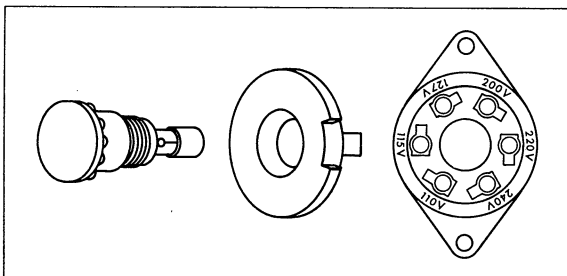

Fig.12. View of the disassembled fuse holder and voltage selector.
1. Check that the equipment is correctly switched to the line voltage to be used, as indicated by the line voltage selector on the rear of the cabinet. Switching to another line voltage is accomplished by unscrewing the main fuse, taking off the contact ring, repositioning it according to the desired line voltage value, and screwing the fuse back in, as shown in Fig.12.